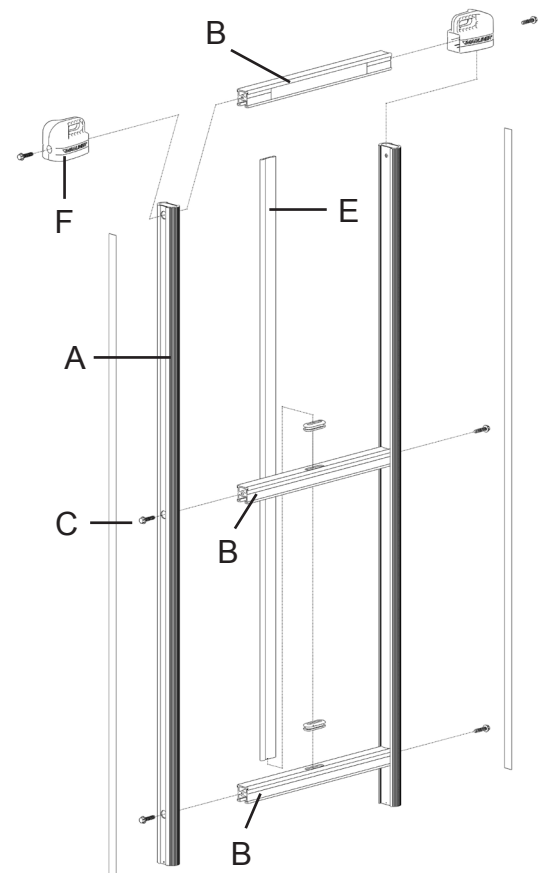

Figure 2
1. Position both side rails (A) and arrange all three cross braces (B) on a flat work bench paying attention to the top and bottom of the side rail (A) as described above.
2. Align the lowest cross brace with the bottom hole of one side rail, ensuring the open end is toward the bottom of the assembly. Fasten one side with the thread forming screw (C).
3. With the middle cross brace in position and in the same orientation as the lowest cross brace, fasten it to the side rail (A) as described in Step 2.
4. If applicable, insert personalization stripes into the groove on both sides of the middle cross brace (C).
5. With the bottom two cross braces in place, fasten the other side rail to these cross braces using the thread forming screw (C).
7. If applicable install Magliner label into the grooves on each side of the top cross brace (B).
8. Insert both end caps (D) onto each side of the top cross brace (B) as shown in Figure 2.
9. Firmly press the top cross brace (B) with the end caps (D) onto the top of the exposed side rails.
10. Fasten to the cross brace with the remaining thread forming screws (C). Note: Access the top mounting screws through the hole in the side of the end cap.
1. Position both side rails (A) and arrange all three cross braces on a flat work bench paying attention to the top and bottom of the side rail (A) as described above.
2. Align one cross brace (B) with the bottom hole of one side rail, ensuring the open end is toward the bottom of the assembly. Fasten one side with a hex head thread forming screw (C).
3. With a second cross brace (B) in position in the middle of the side rail and in the same orientation as the lowest cross brace, fasten it to the side rail (A) as described in Step 2.
5. With the bottom two cross braces in place, fasten the other side rail to the cross braces using the thread forming screw (E).
7. If applicable install Magliner label into the grooves on each side of the upper cross brace (B).
8. Insert both end caps (H) onto each side of the last cross brace (B) as shown in Figure 2.
9. Firmly press the upper cross brace (B) with the end caps (H) onto the top of the exposed side rails.
10. Fasten the top cross brace with the remaining thread forming screws (E). Note: Access the top mounting screws through the hole in the side of the end cap.